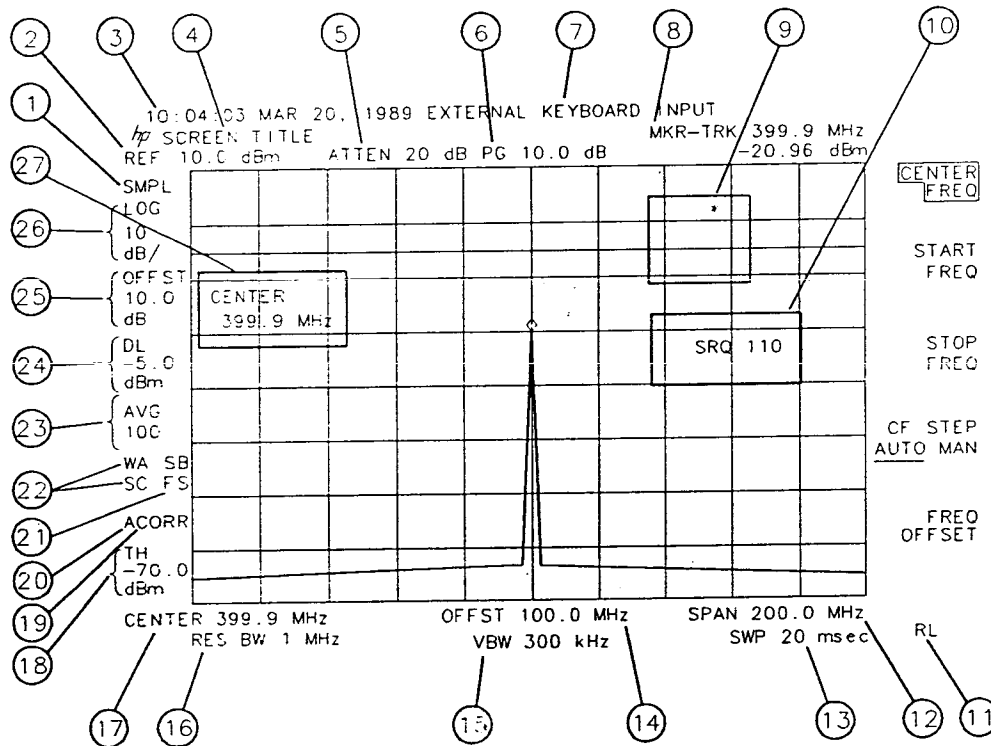

Figure 1-4. Screen Annotation
Figure 1-4 shows an example of the annotation that may appear on a spectrum analyzer screen. The screen annotation is referenced by numbers and is listed in Table 1-2. The function key column indicates which front-panel key or softkey activates the function related to the screen annotation. Refer to Chapter 3 for more information on a specific function key.
In Figure 1-4, item 21 refers to the trigger and sweep modes of the analyzer. The first letter ("F") indicates the analyzer is in free-run trigger mode. The second letter ("S") indicates the analyzer is in single-sweep mode.
Item 22 refers to the trace modes of the analyzer. The first letter ("W") indicates that the analyzer is in clear-write mode. The second letter is "A," representing trace A. The trace B trace mode is "SB," indicating trace B ("B") is in the store-blank mode ("S"). The trace mode annotation for trace C is displayed under the trace mode annotation of trace A. In Figure 1-4, the trace C trace mode is "SC," indicating trace C ("C") is in the store blank mode ("S").